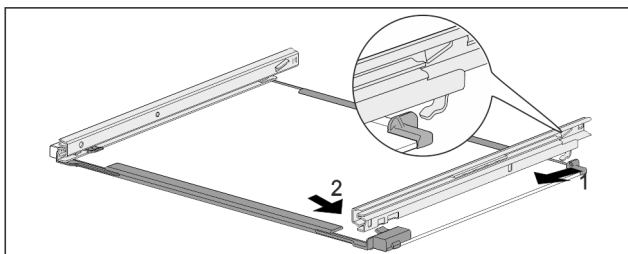

Fig. 68 Glass shelf with rails
- ▶ Hook in rail at the back. Fig. 68 (1)
- ▶ Hook in rail at the front. Fig. 68 (2)